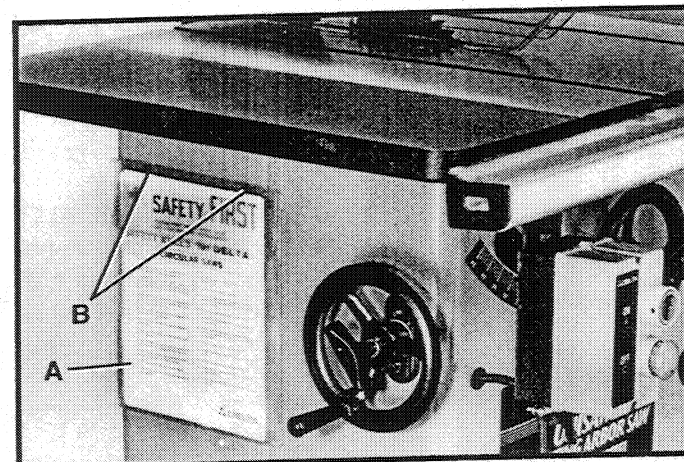

Fig. 59
A literature holder (A) Fig. 59, is supplied with your saw to provide storage and protection for the machine's instruction manual, parts list, etc., so they may be readily available for reference. Two push rivets (B) are supplied to attach the literature holder to the left side of the saw cabinet, as shown.